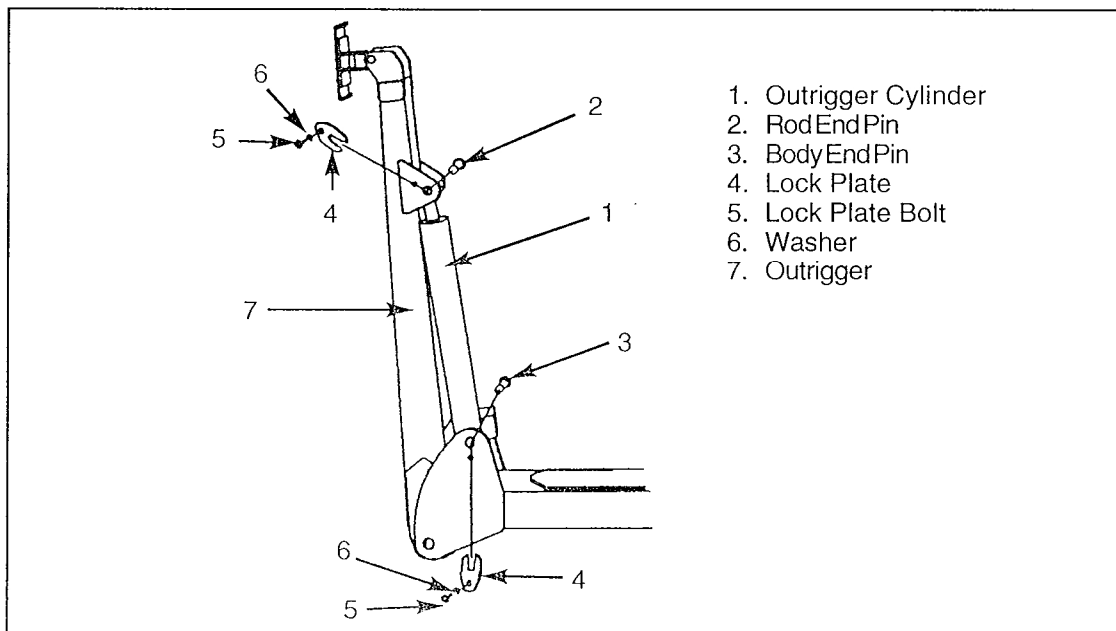

Figure 1
PROCEDURE: Read all instructions thoroughly and refer to figures 1, 2, and 3 before starting.
3. Remove the securing bolts #5 and washers #6 from the cylinder lock plates. (fig. 1)
4. Remove the lock plates #4 (fig. 1).
5. While supporting the outrigger cylinder, remove the body end pin #3 (fig. 1).
6. While supporting the outrigger cylinder, remove the rod end pin #2 (fig. 1).
7. Remove the cylinder #1 (fig. 1).
4. Install supplied outrigger cylinder #1 on chassis and install rod end pin #2 (fig. 1).
5. Install body end pin #3 (fig. 1).
6. Install supplied lock plates #4 (fig. 1).
7. Apply medium strength thread lock to lock plate securing bolt, install bolt #5 and washer #6 (fig. 1). Torque to 25 ft. lbs.